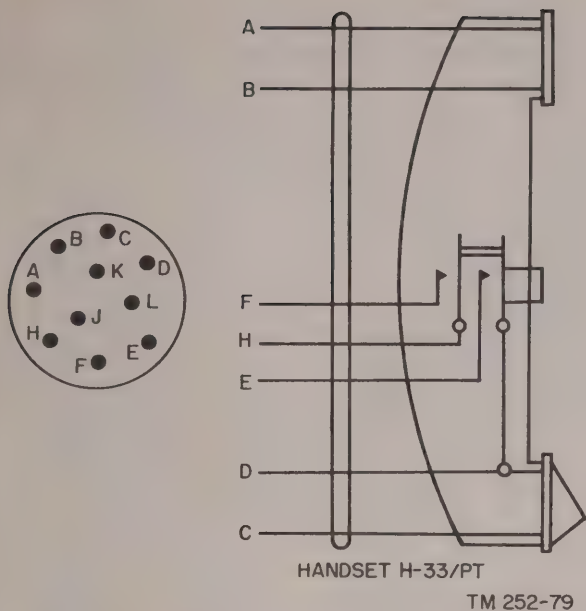

Figure 41. Handset H-33/PT, schematic diagram.
b. *Power Control.* Power switch S1501B controls the power to the radio set. It is coupled mechanically to the VOLUME-OFF switch S1501A so that only one knob is necessary for both power and VOLUME control. In the OFF position of this control, S1501B is open and prevents power from being applied to the radio set. The connections to the switch for dc power are through terminals 16 and 17 of TB1502. Connections are provided for a 115-volt ac power source (not normally used in Radio Set AN/VRC-19(*)) through terminals 13 and 15 of TB1502. For more details on how the switch functions in the overall circuit, refer to paragraphs 69, 70, and 71. Another power control switch is located in the handle of the handset (fig. 41). This is the push-to-talk switch that is connected to the control unit through terminals F and H of J1501. It is a low-voltage switch, used to energize